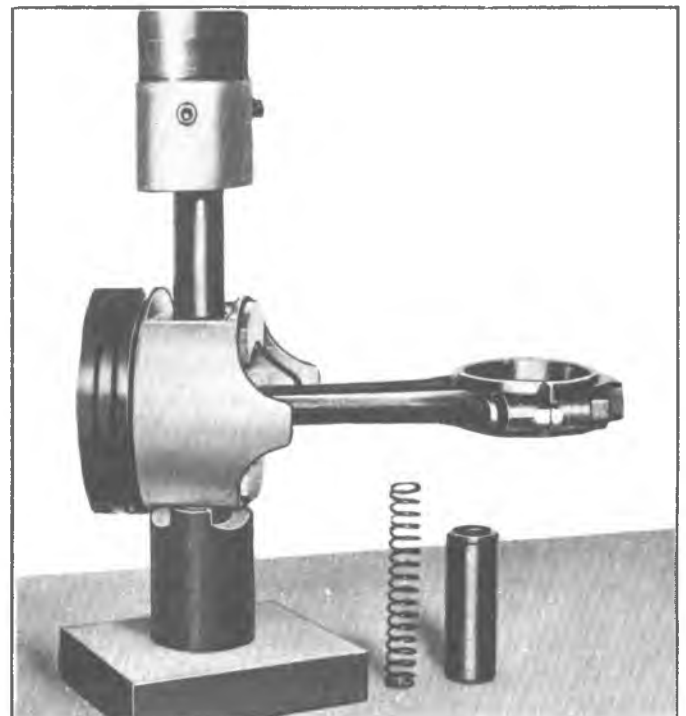
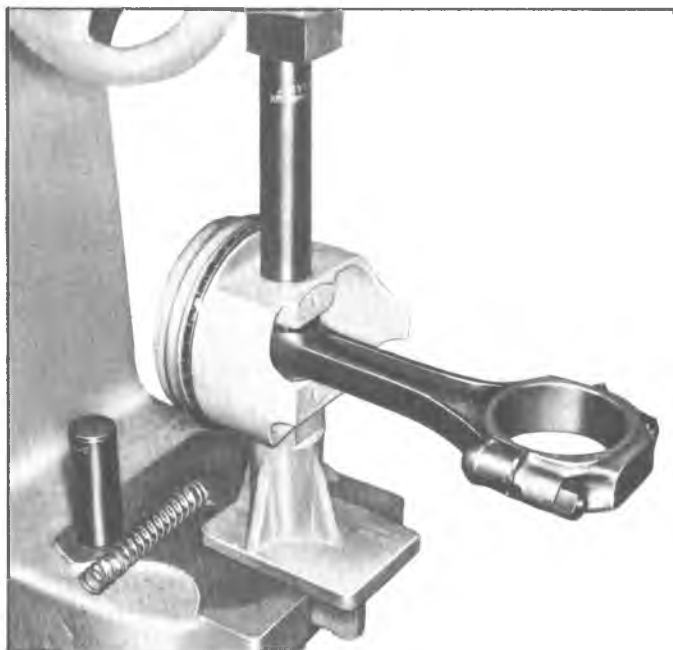

Fig. 50—Removing Piston Pin (In-Line and "Small V8")
Fig. 51—Removing Piston Pin ("Mark IV V8")
3. Using Tool J-9500 for In-Line and "Small V8" (fig. 50) or Tool J- 6994 for "Mark IV V8" (fig. 51), place connecting rod and piston assembly in an arbor press with piston on Support then using Remover, press piston pin out of connecting rod and piston.